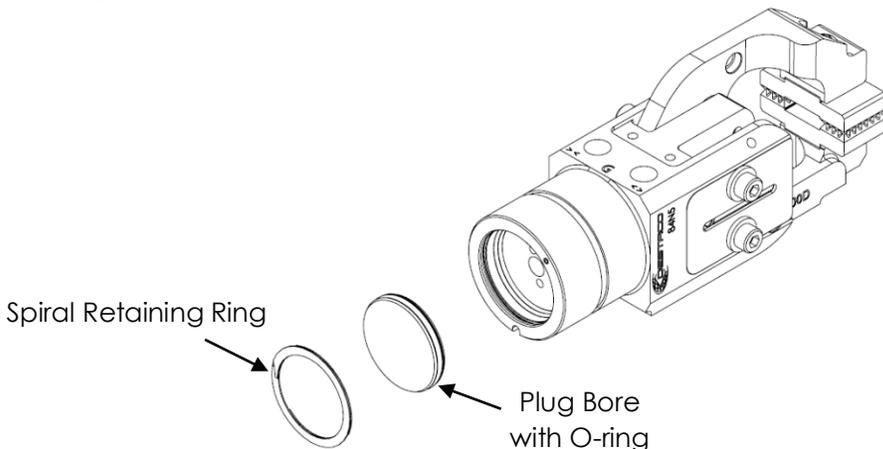

Fig.48
22. Insert the plug bore with replacement O-ring into the cylinder. Verify plug bore is seated flat into the cylinder bore stop. (see Fig.48).